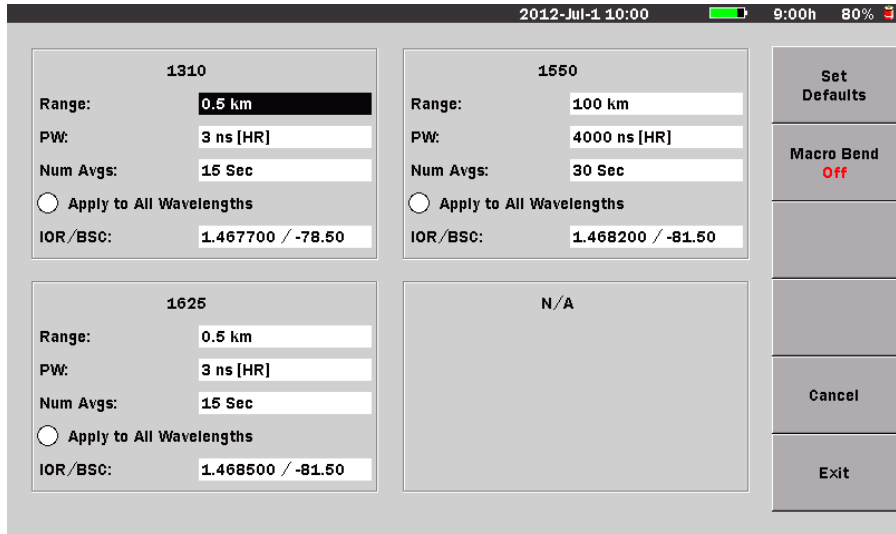

Figure 4-28: OTDR Parameters Screen
When the **Wavelength** softkey (**f3**) is set to “All”, the **f4** softkey legend changes to “Test Parameters”. Pressing **Test Parameters (f4)** displays the OTDR Parameters screen (see Figure 4-28 on page 4-78) which contains access for the following test parameter settings:
- With the Wavelength softkey (f3) set to **Wavelength All**, press **Test Parameters (f4)**. The OTDR Parameters screen (see Figure 4-28 on page 4-78) appears.